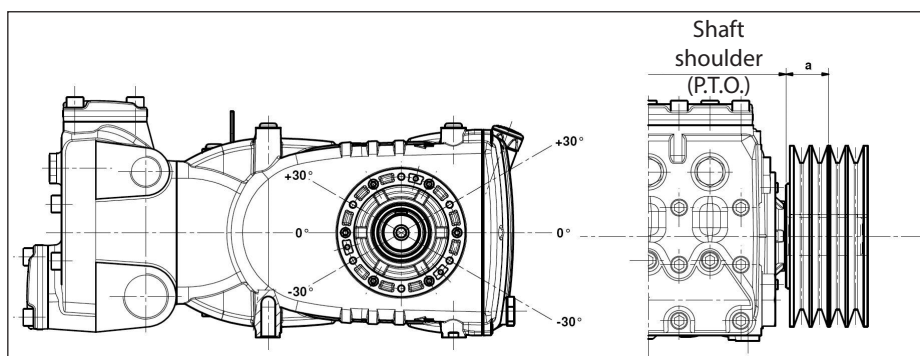

Fig. 10
The radial load on the shaft must not exceed 7500 N (value necessary for Layout definition). The transmission is considered adequate if the load is applied to a maximum distance $a=40\text{ mm}$ from the shaft shoulder (P.T.O) as shown in Fig. 10.
- b) Use high performance belts – for example **XPB** instead of **SPB** – as a lower quantity of belts for the same transmitted power may be necessary and a consequent shorter resulting distance compared to the shaft shoulder (P.T.O) "a" of Fig. 10.